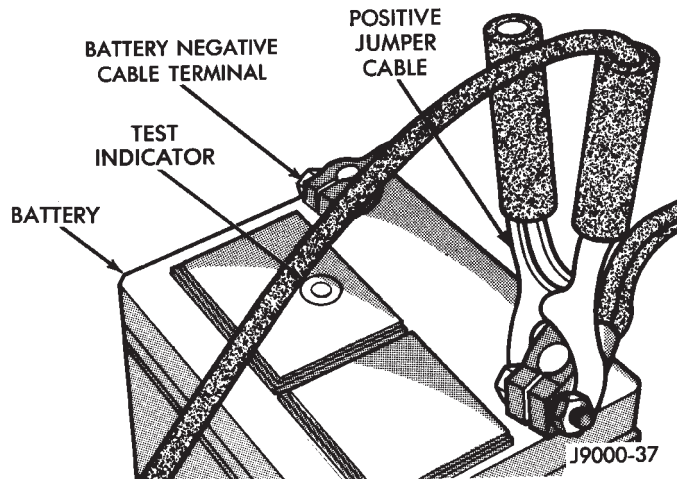

Fig. 4 Positive Jumper Cable Connection
- (3) Attach a red jumper cable connector clamp to positive (+) terminal on booster battery. Attach other red cable connector clamp to positive (+) terminal on discharged battery (Fig. 4).